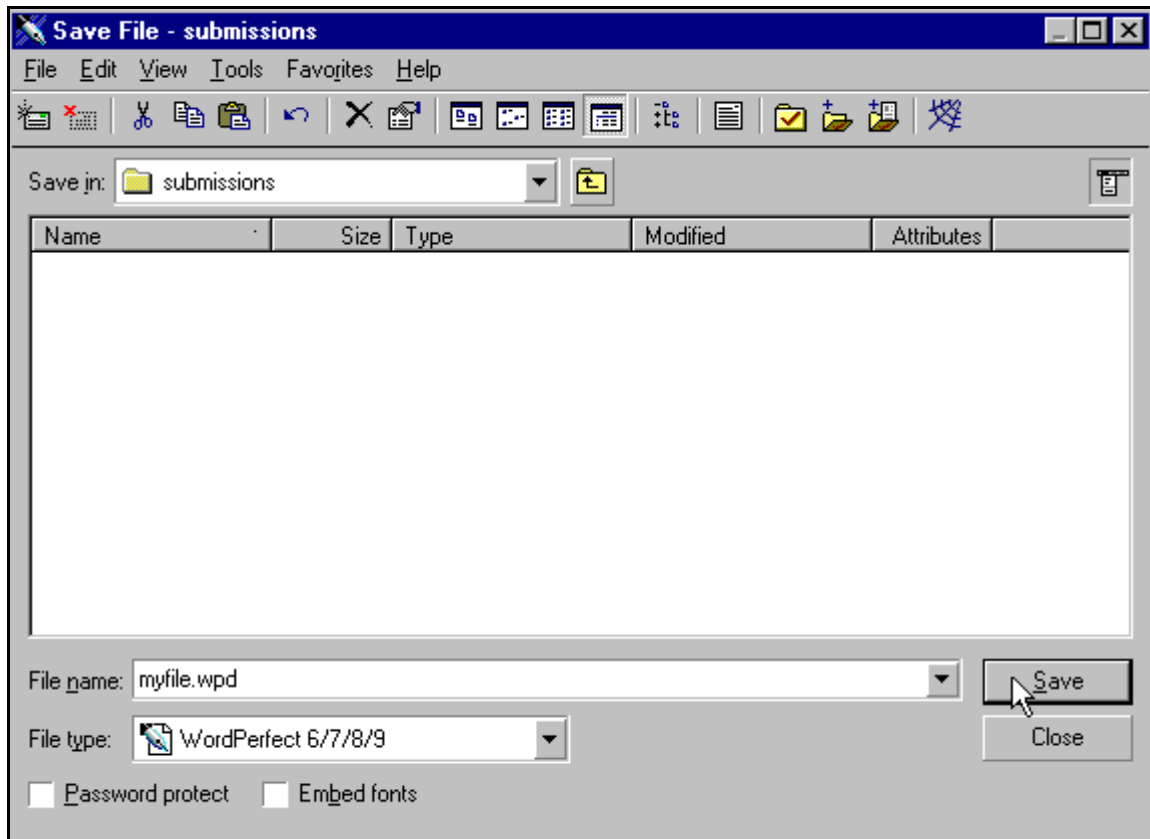

Figure 4-4 Save File Window
5. Immediately after creating a new document, save the file in WordPerfect 6/7/8/9 format (see Figure 4-4).